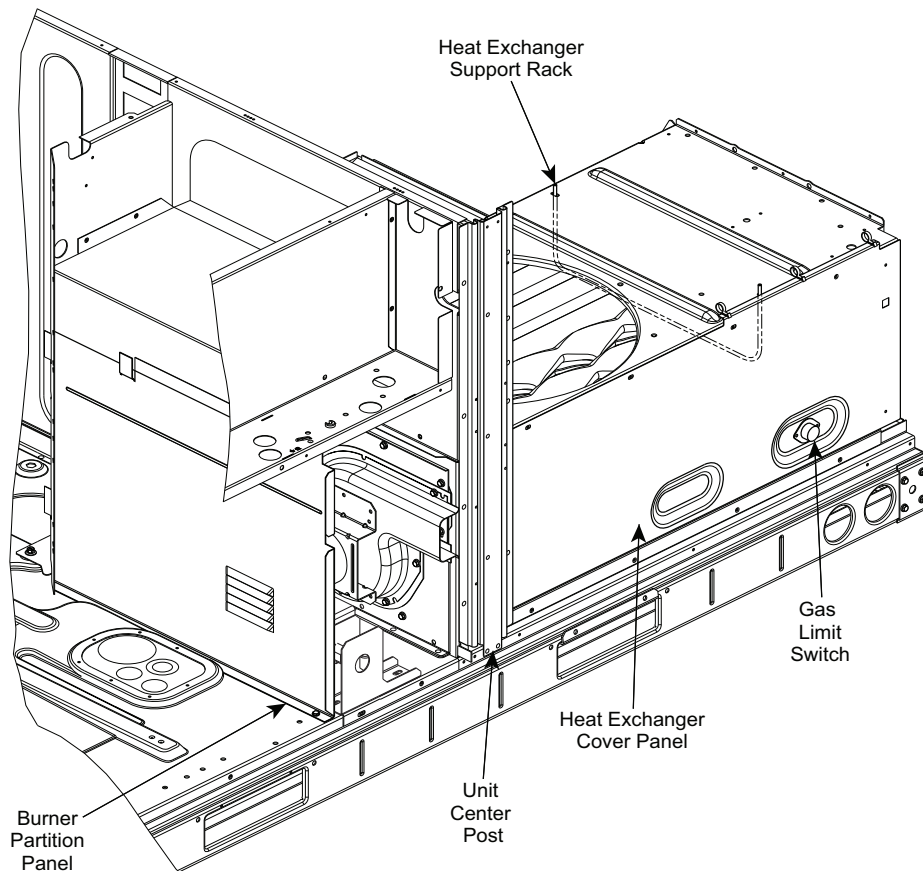

Fig. 57 — Heat Exchanger Access — Internal Panels, Center Post and HX Rack Locations
1. Remove the screw at the base of the burner partition panel (see Fig. 57) and slide out the panel.
5. Remove the screw at the base of the burner partition panel (see Fig. 57) and slide out the panel.
3. Remove the unit center post (see Fig. 57).
Remove the indoor blower access panel. Limit switch is located on the heat exchanger cover panel. See Fig. 57.